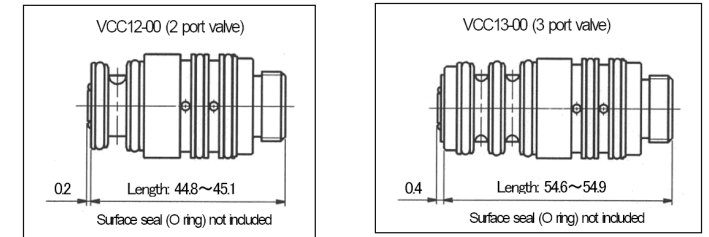

Figure 14
- Adjust the total length of the valve as shown in Figure 14. For reference, the tightening torque is 1 to 2 Nm for 2 port valve and 0.5 to 1 Nm for 3 port valve. Over-tightening may damage the thread.